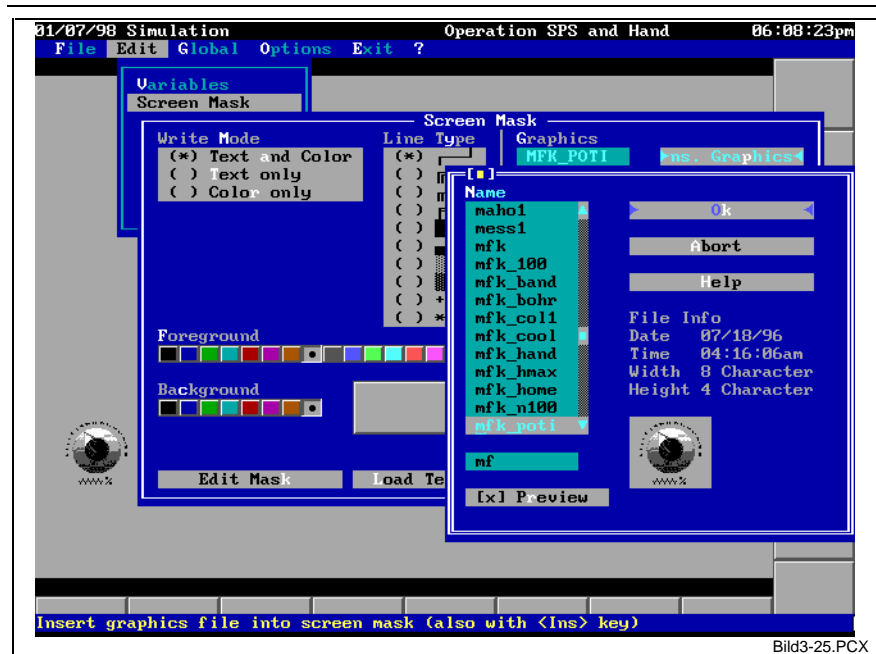

Fig. 3-25: Selecting a graphic element for integration into the image mask
**Functionality** Graphics may be included in the image mask. To do this, all existing graphics are offered in a selection window (see Fig. 3-25). Optionally, a preview of the graphics may be displayed. The required graphics are loaded when the <Enter> key or the OK button is pressed, and must be placed on the screen. Use the cursor keys to place the graphics, and press the <Enter> key to confirm the placing. To abort the integration of the graphics into the image mask, press the <Esc> key when you select the graphics file or place the graphics. The graphics are always entered at the cursor position in the list. This is significant because display takes the sequence of the list into account. The first graphic element in the list is output at the bottom, and the last one at the top. This permits overlapping graphics to be implemented if this is required. The size of the graphics cannot be influenced.